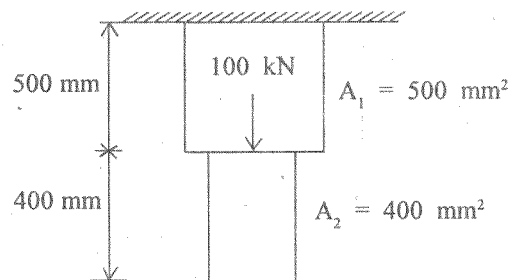

Fig. 1
11. The vertically supported stepped bar is shown in Fig. 1. The specific weight is 75 kN/m^3 . A point load of 100 kN acts at the middle node. Determine the stress in each element and the support reaction. Take $E = 200 \text{ GPa}$.